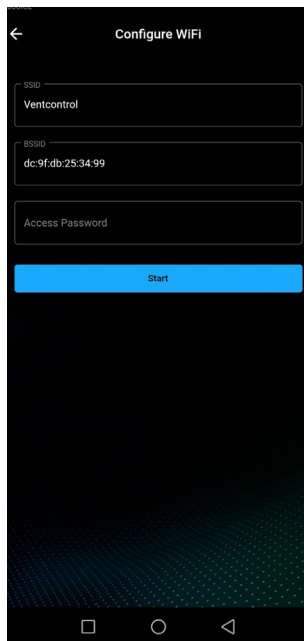

Рис. 4
6) If you are connected to a network, its data will be entered (Figure 4)